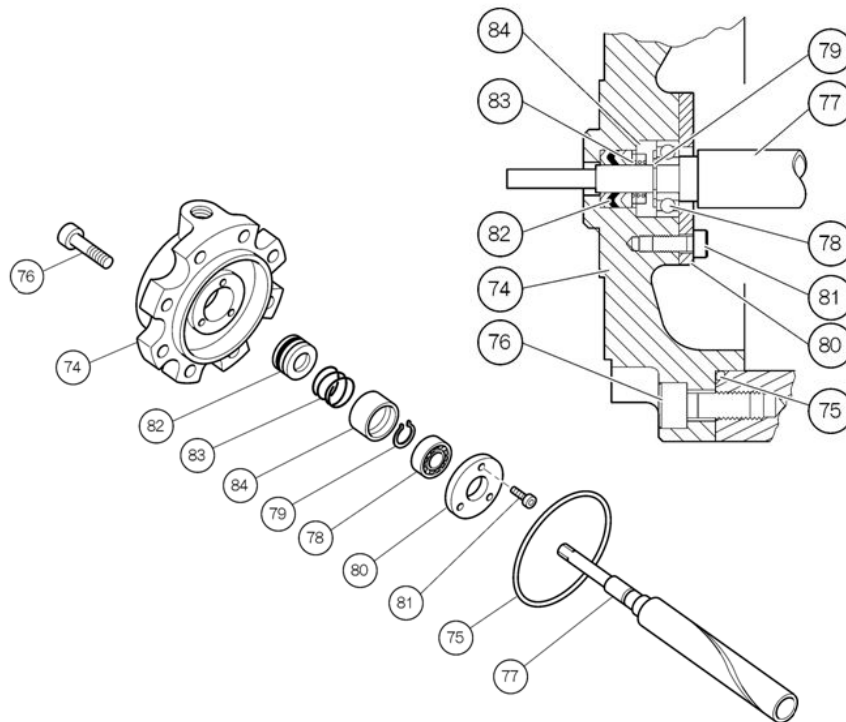

Figure 5-15 Development View of Unloader Cylinder Cover
- c) Apply sufficient oil to the unloader cylinder cover [74], and attach the V-ring set [82]. One of the V-rings in a set is made of rubber (dark color) to improve sealing performance. As shown in Figure 5-15, it is set at the second position viewed from the outer side of the machine. Set the V-ring in such a way that its ridge faces the machine's outer side and the lip faces the inner side.